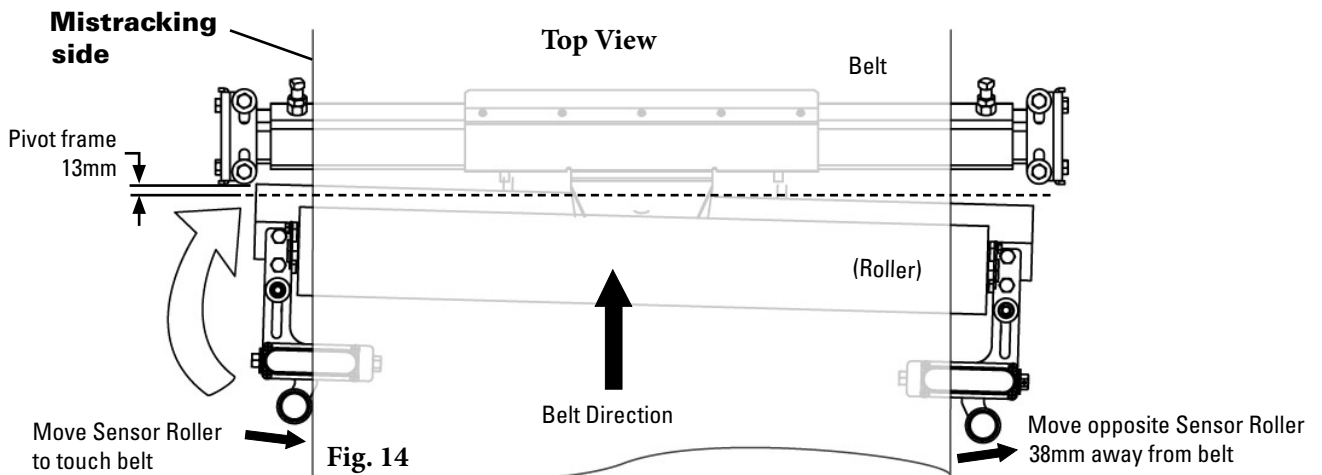

Fig. 14
- 14. Pivot the frame 13mm to the side it is mistracking. Bring sensor roller in until it touches the belt. Move opposite sensor roller out to 38mm from the belt (Fig 14).